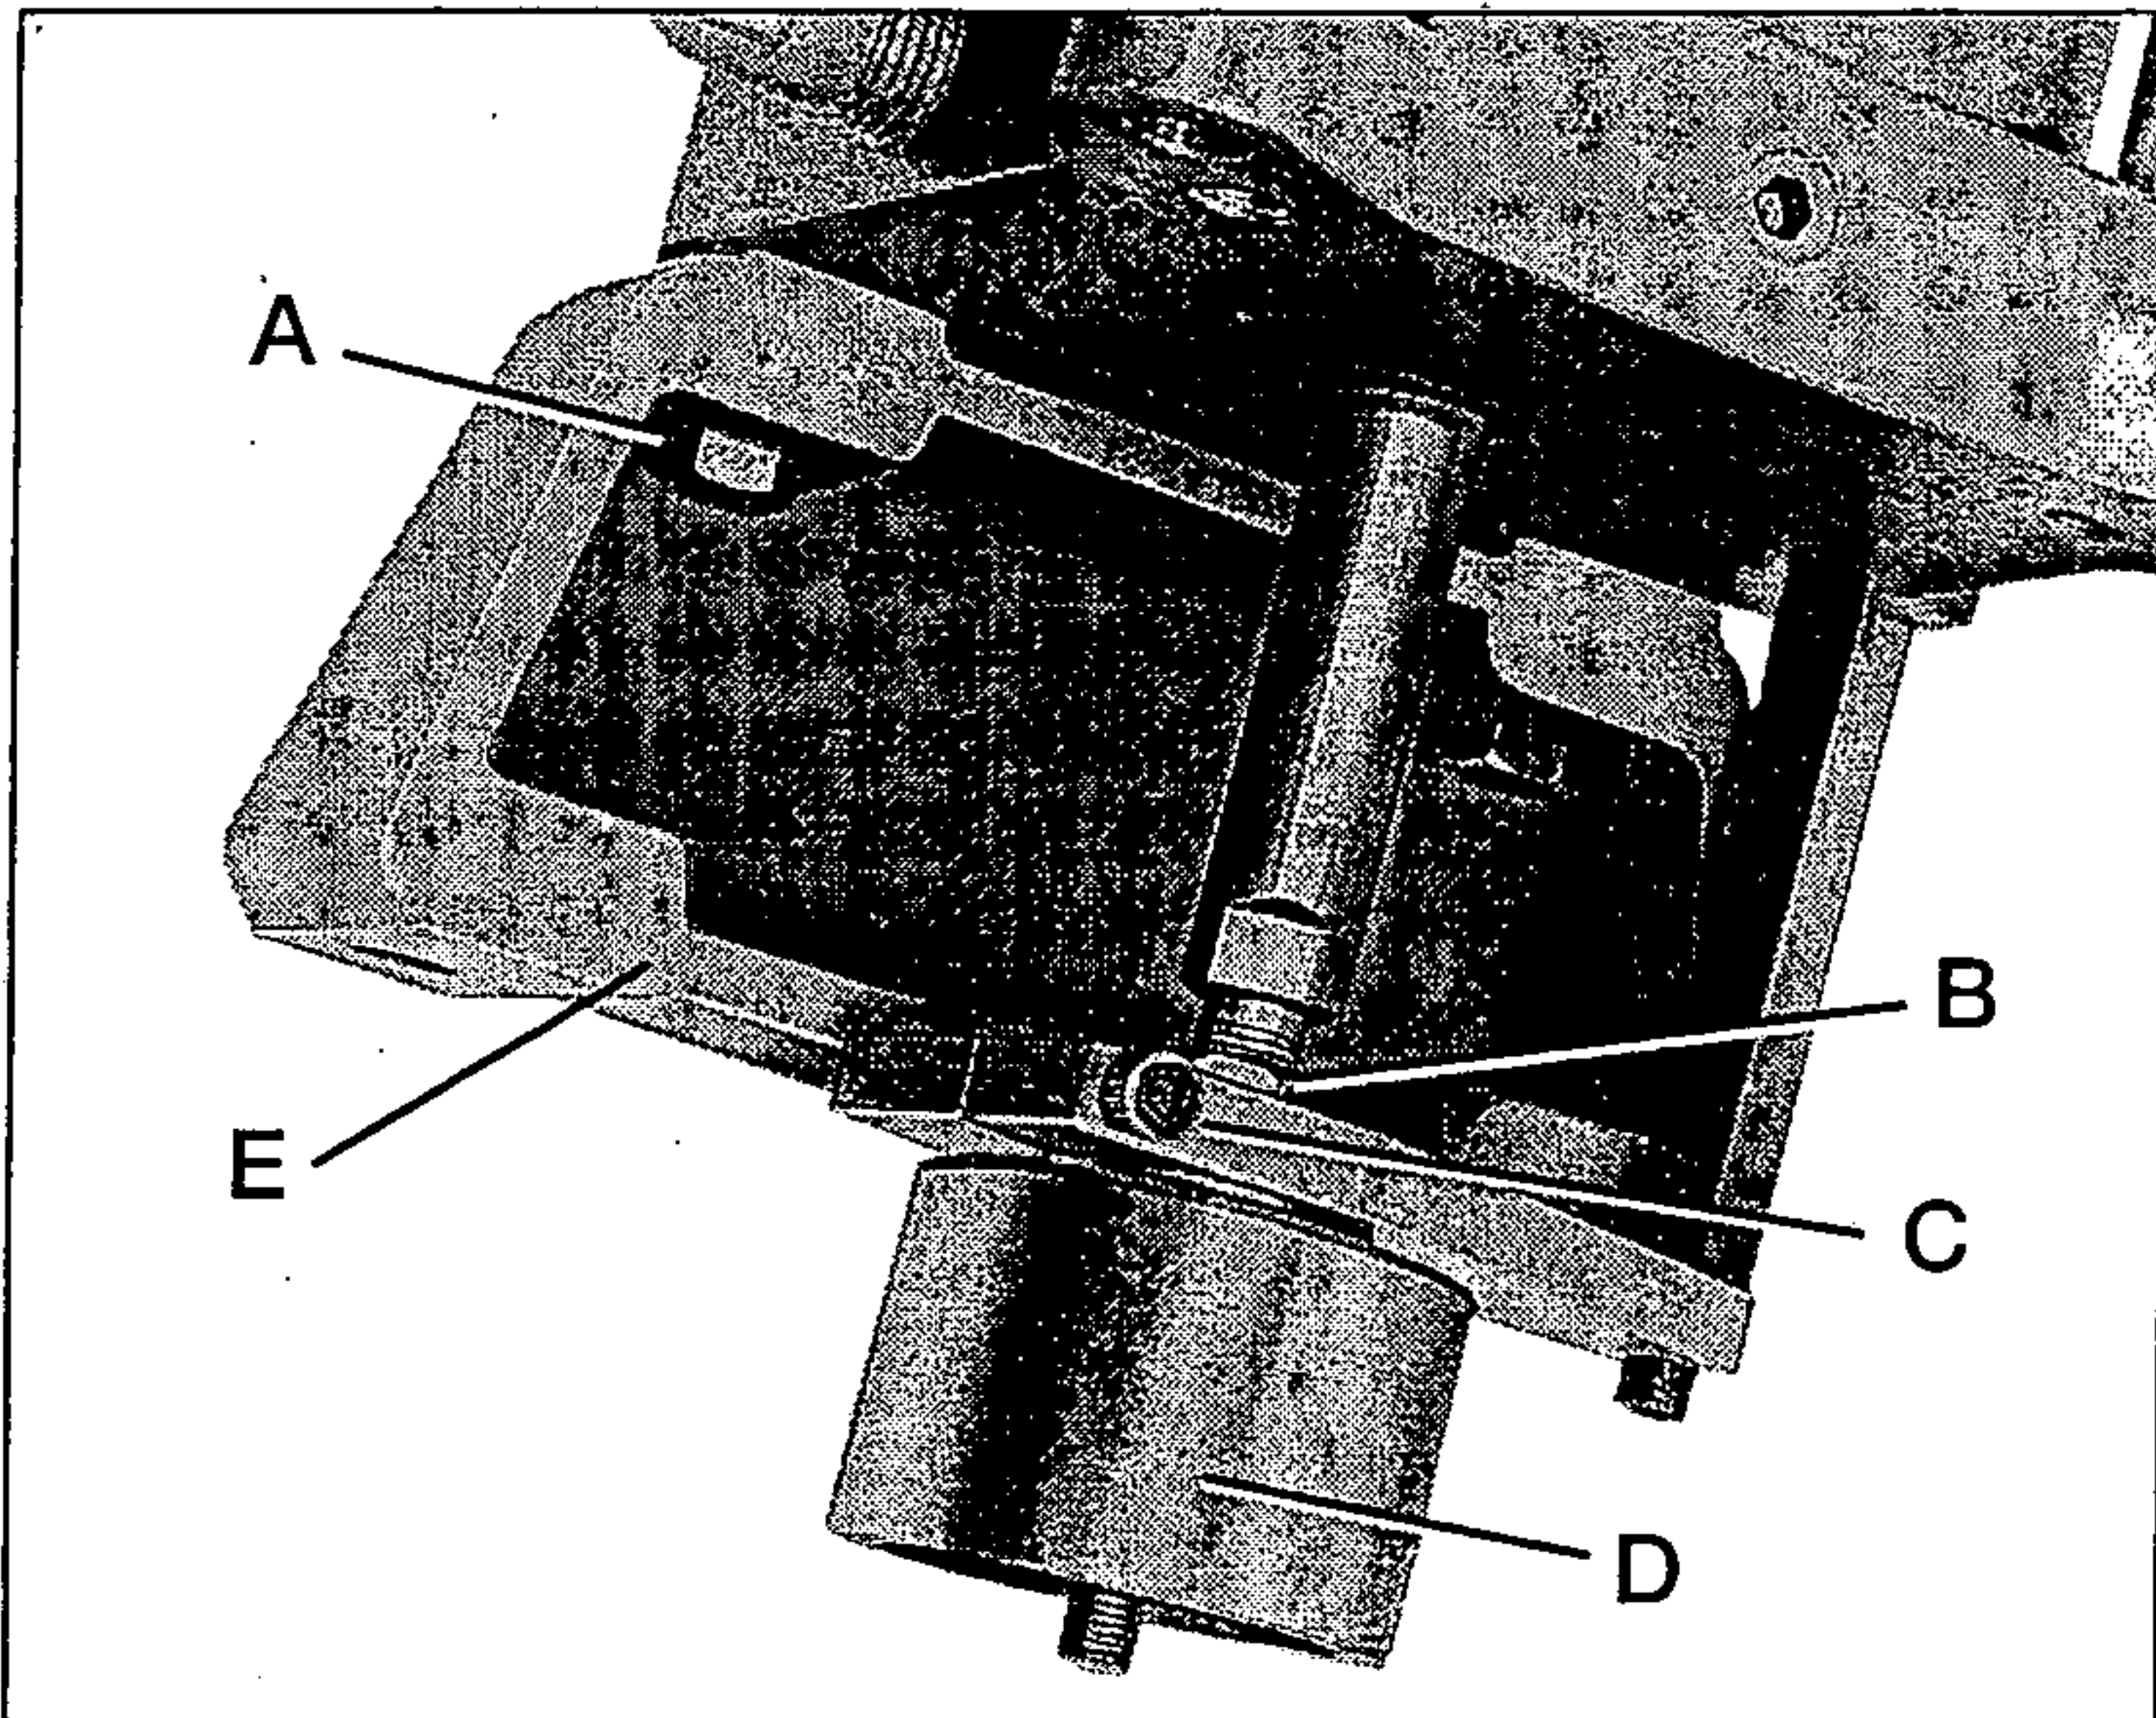

Figure 1
3. Remove cylinder mounting support (E, fig. 1) from air feed assembly by unscrewing cap screws (A).
4. Pull piston rod far enough out of cylinder for convenient removal of thrust bearing housing (D). Loosen arm screw (C) and lock nut (B). Then unscrew housing from rod.